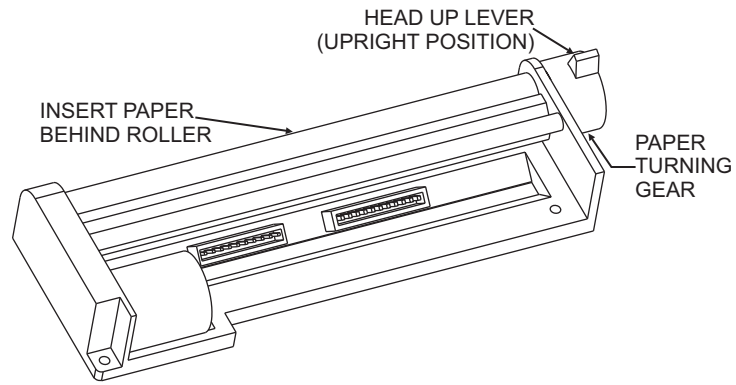

Figure 4
4. (Refer to Figure 4.) Push the "Head Up Lever" to the down position to loosen the tension on the roller. Feed the loose end of the paper behind the roller at the top of the printer mechanism.